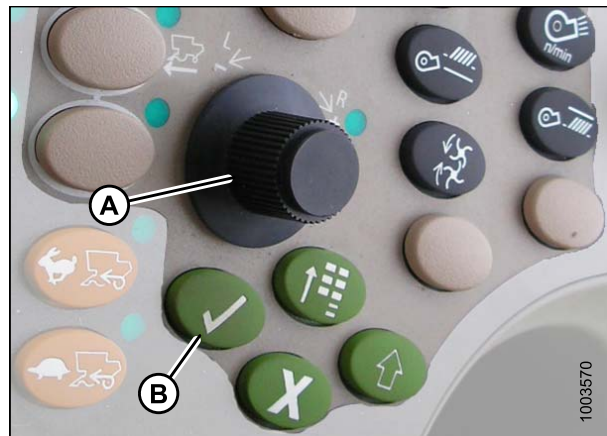

Figure 3.281: John Deere Combine Control Console
7. Select HEADER in box (A) by scrolling down to the box using the scroll knob, and then pressing the check mark button (knob and button are shown in Figure 3.281: *John Deere Combine Control Console*, page 178).
8. Scroll down to the lower right icon that resembles an arrow in a diamond (B) and press the check mark button to select it.